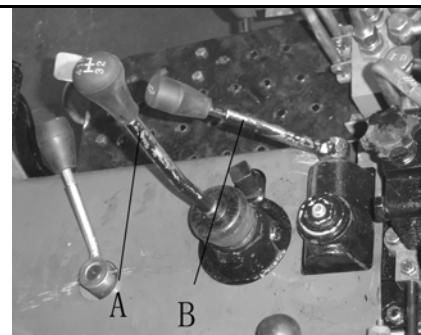

Figure 2-19 Differential Operation (20XT)
- The main and auxiliary gear shift is controlled by one control handle to achieve 8+2 shifts. The main gear shift lever (A) has four gears (3 and one reverse shift-R. The auxiliary gear shift lever (B) has two speed ranges, L is low speed and H is high speed.
- Step on the clutch pedal and operate the auxiliary gear shift lever (B). Push down from the neutral position; low shift, L. If lifting up use the high shift, H.
- Figure 2-19 Shifting the Tractor
- Step on the clutch pedal, push forward on the main shift lever (A) from the neutral position. Shift 1: pull backward. Shift 2: move to the left from neutral and then pull backward. Shift 3: push forward. Shift 4: move to the right from neutral and then push forward. Reverse gear shift (R).